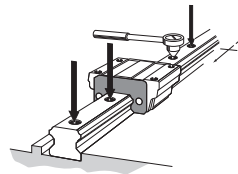

Fig.10 Fully Fastening the Mounting Bolts
(4) Tighten the mounting bolts at the designated torque using a torque wrench. (See Fig.10, and Table1 and Table2 on **B1-101**.)